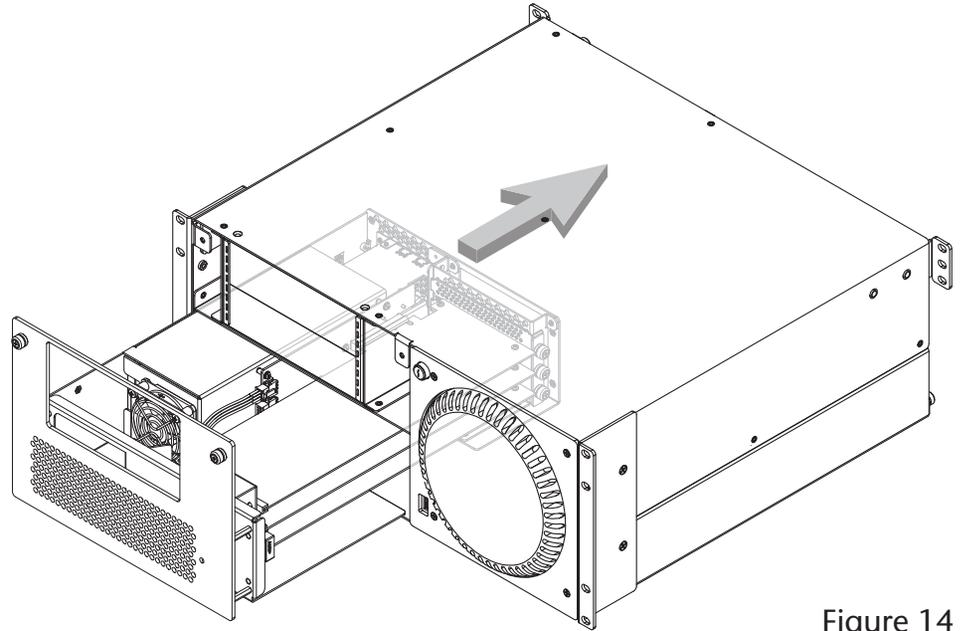

Figure 14
10. Carefully slide the PCIe card expansion module into the rackmount enclosure until it stops (Figure 14).